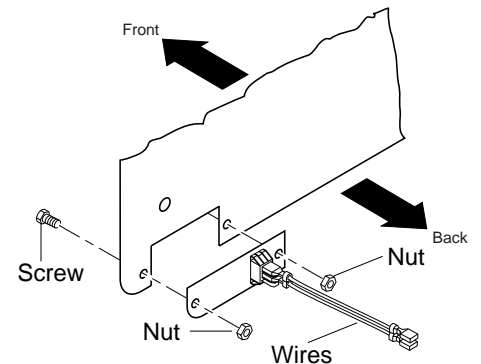
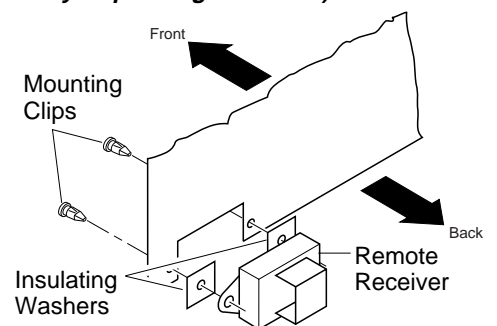

Figure 16 - Switch Plate and Wiring Harness (Switch Plate and Orientation May Vary Depending On Model)
Figure 17 - Installing Remote Receiver
3. Remove switch plate (see Figure 16). Discard after removing.
4. Install remote receiver unit onto gas log heater base using clips (2) and insulating washers provided.
5. Push clips firmly into place (see Figure 17).